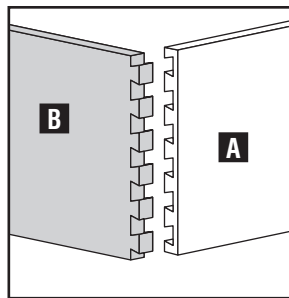

Fig. F1
On the OMNIJIG®, single-pass half-blind joints (which are most often used when making drawers) can be cut using the variable finger template and the single-pass half-blind/sliding tapered dovetail template. The joints are made by cutting the pinboard (drawer front) (A) Fig. F1 and F2 and the tailboard (drawer side) (B) at the same time.